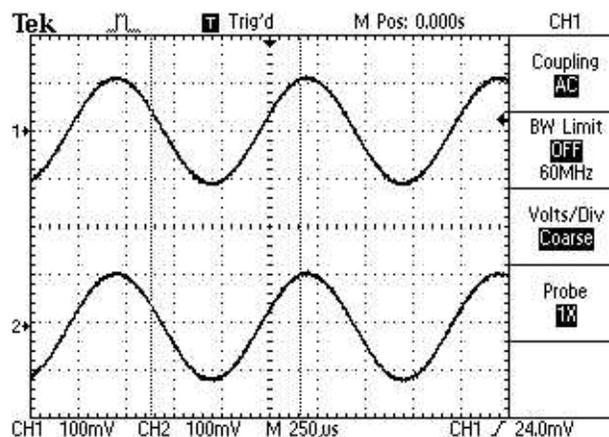

Figure 2
- Using the buttons on the right side of the LCD screen, set CH1 for (see figure 2):
- Display both channels (as show in Figure 2)